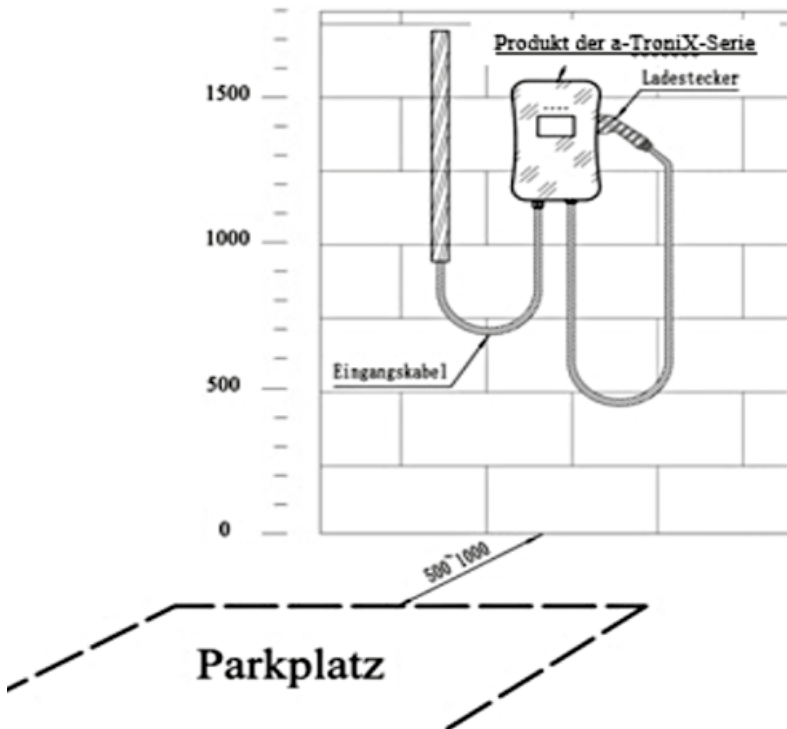

Fig. 5-1 Mounted the a-TroniX-series product on the wall
- c. Mounted the a-TroniX Wallbox on the wall is shown in Fig.5-1.